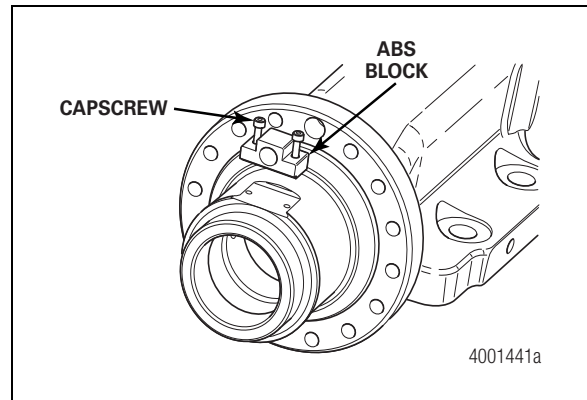

Figure 3.16
7. If required, remove the ABS block mounting capscrows. Figure 3.16.